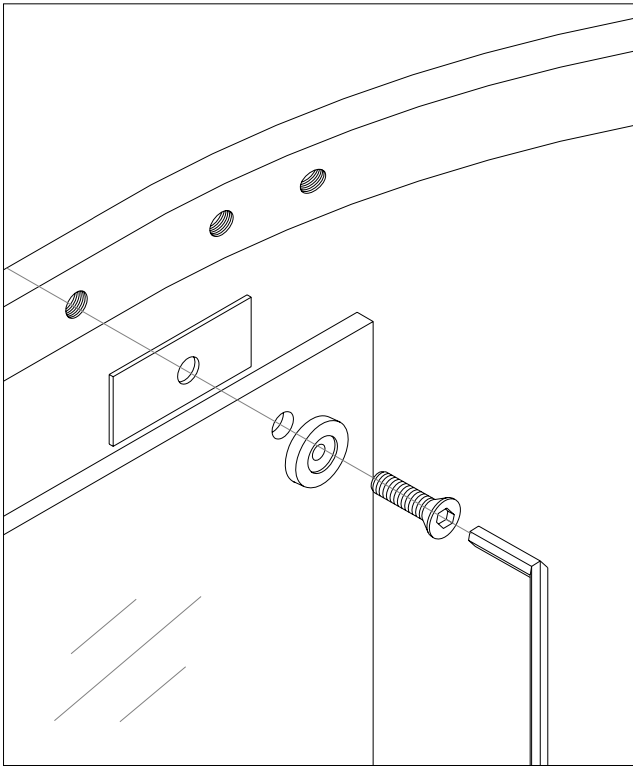

Fig 4
5. Locate the **Pivot Bar (4)**, then, locate the parts **(16, 18, 19)** to fasten the pivot bar to the stationary panels. Use the clear rubber **gasket (16)** to prevent from glass to metal connection. Secure the stationary glass panels with the **decorative glass holders (19)** using the **M8x20 Flat head bolts (18)** (Fig 4).